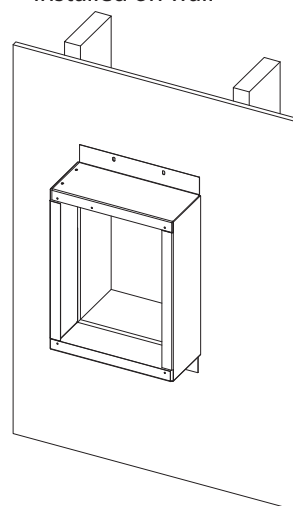

FIGURE 2.5 FEK Installed on Wall
2. Place FEK box over the framed opening in the wall. Ensure the FEK is level to ensure precipitation does not build up in the HTK-EXT termination cap when it is installed. Attach it to the building. Verify the box remains square so the HTK-EXT can be installed correctly. See **FIGURE 2.5**.